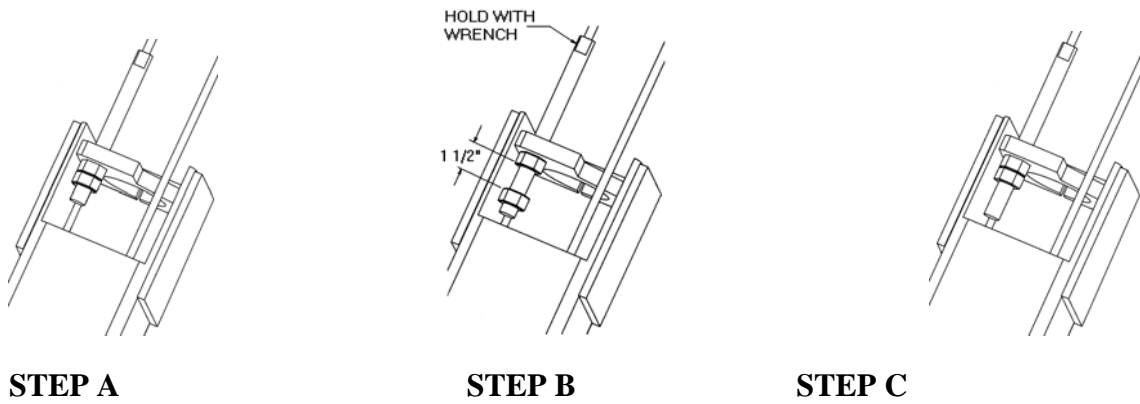

Figure 9
1. Refer to **Figure 9** - arm restraint installation.